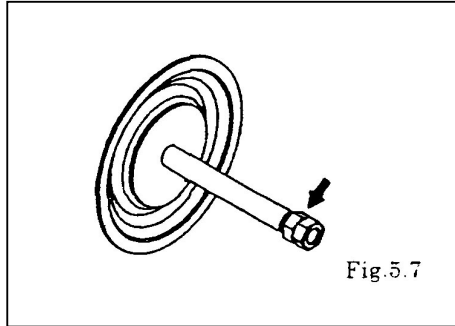

Fig.5.7
- Remove the centre disk and diaphragm from the opposite side using the double nut. [Fig. 5.7]